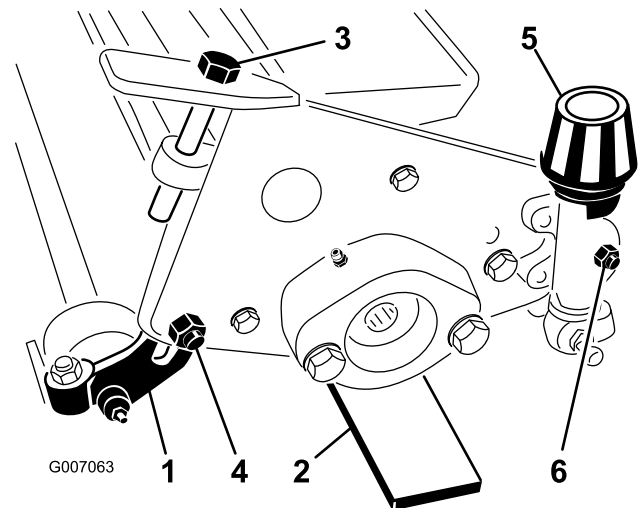

Figure 2
2. Loosen (2) locknuts on carriage bolts securing rear wheel brackets to dethatcher frame (Figure 2).
4. Turn the adjusting capscrews on each end of the dethatcher unit so rear wheel brackets raise to the maximum "up" position (Figure 2). Rest rear wheels onto the level surface (with reel blades contacting gauge bars) and adjust the wheel bracket on the side where the rear wheel is above the level surface-until
1. Gauge bar (4)
3. With both rear wheels contacting the level surface, loosen both height of cut knob locknuts. Rotate the height of cut knobs until both ends of the front roller contact the level surface. Verify contact by using a piece of paper to check each roller end. Retighten both height of cut knob locknuts (Figure 2).